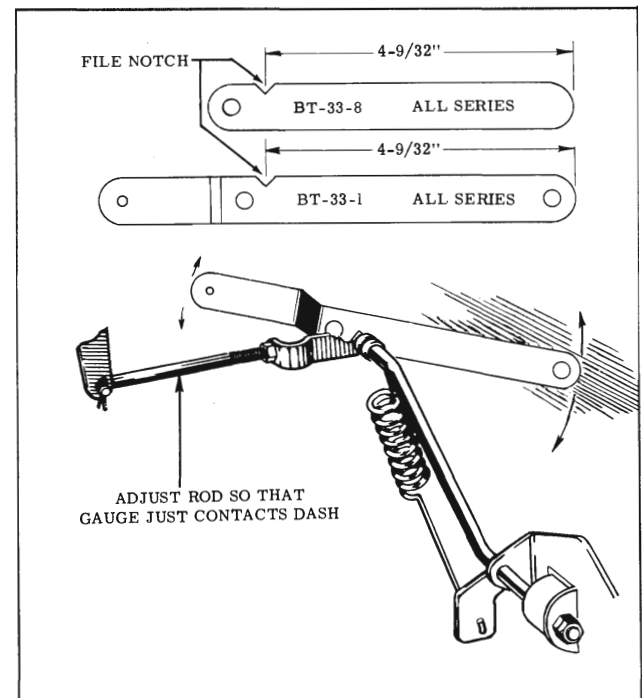

Fig. 3-131 Accelerator Pedal Height Adjustment
- b. Adjust accelerator rod "F" to position accelerator rod to bellcrank bushing "G" so that gauge just touches dash. (Fig. 3-131)